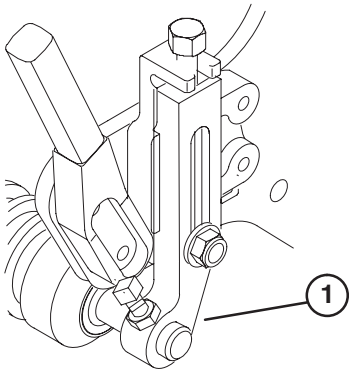

Figure 2
4. On Greensmaster 1600 only, install the new height-of-cut arms and roller assembly with the height-of-cut adjusting screws, jam nuts and set screws previously removed (Fig. 2).
On Greensmaster 1000, install the height-of-cut arms previously removed. The height-of-cut arms on both models are to be rotated to the forward position as shown in figure 2.